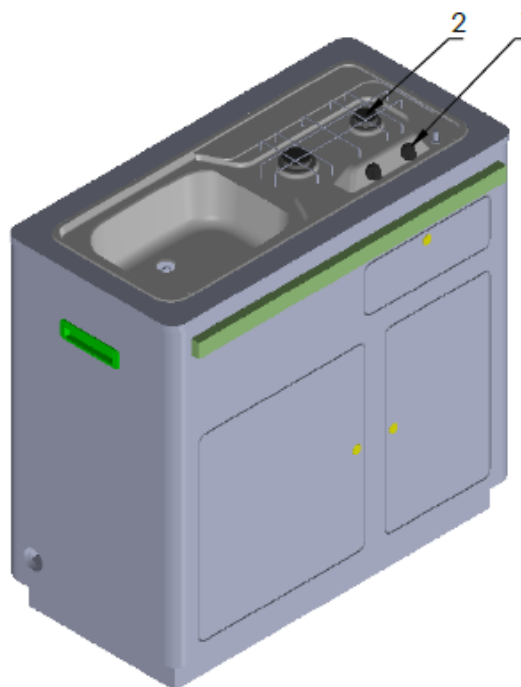

Fig. 17
- **Flames:** Check regularly that the burners **(2)** are working properly (the flame should be even, there is no risk of overheating). (*Fig. 17*).
- **Safe use:** Switch off the cooker after cooking and check that the gas has been properly turned off (*Fig. 17, 1*).
- **Cleaning the burners:** The user should regularly clean the burners of the gas stove (*Fig. 17, 2*) to prevent them from becoming clogged with dirt.